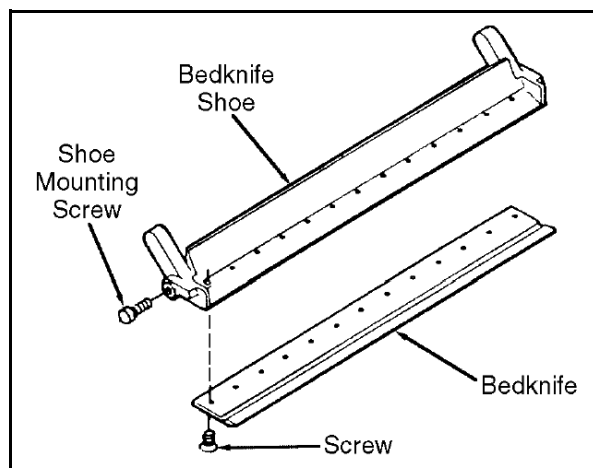

Figure 12F-2. Bedknife Removal and Replacement
2. Refer to Figure 12F-3 (sheet 1 of 2). If not previously removed, remove the throw shield.